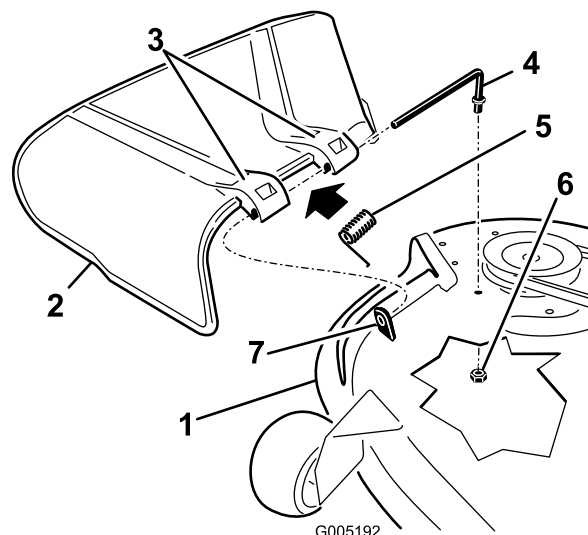

Figure 77
- Slide the rod out of the short stand-off, spring, and grass deflector (Figure 77).
- Replace the grass deflector (Figure 77).
- Slide the rod through the second grass-deflector bracket (Figure 77).
- Secure the rear end of the rod into the mower with a nut (3/8 inch) as shown in Figure 77.
- Remove the nut (3/8 inch) from the rod under the mower (Figure 77).